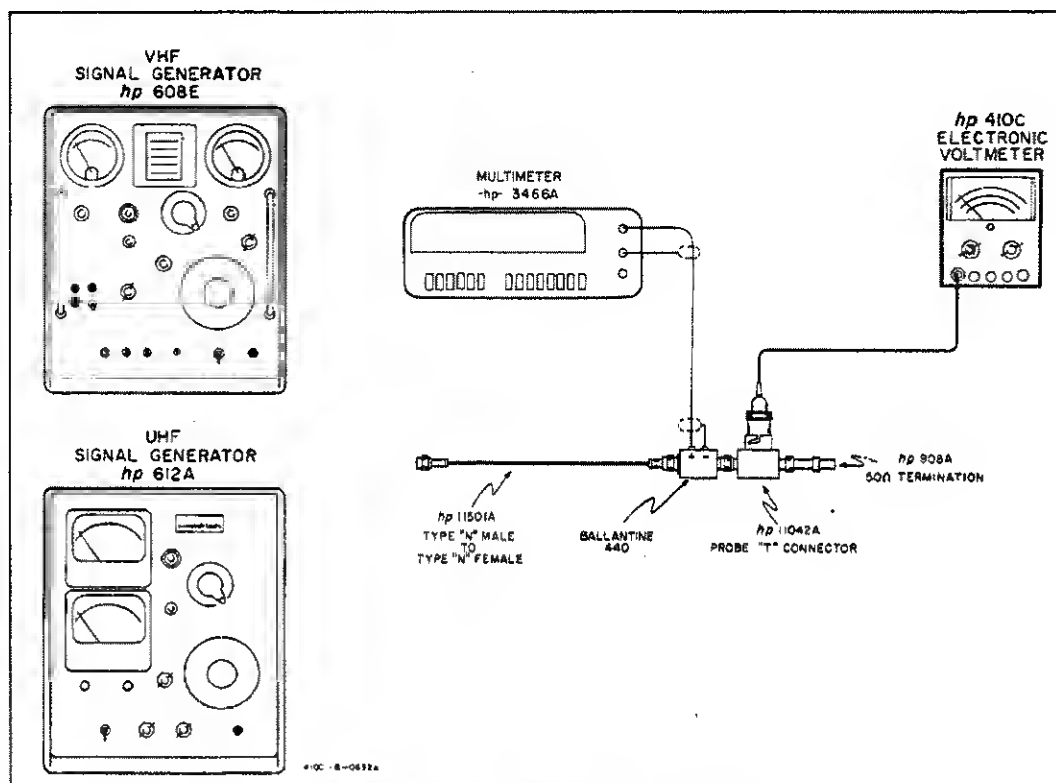

Figure 5-3. High Frequency Response Test.
a. A VHF Signal Generator (-hp- Model 608E), a UHF Signal Generator (-hp- Model 612A), a Probe-T-Connector (-hp- Model 11042A), a Micropotentiometer (Ballantine Model 440), and a DC Voltmeter (-hp- Model 3466A) are required for this test. Figure 5-3 describes test arrangement to be used.
d. Replace VHF oscillator with UHF oscillator in Figure 5-3. Repeat steps b and c for UHF oscillator output frequencies from 480 MHz to 700 MHz.